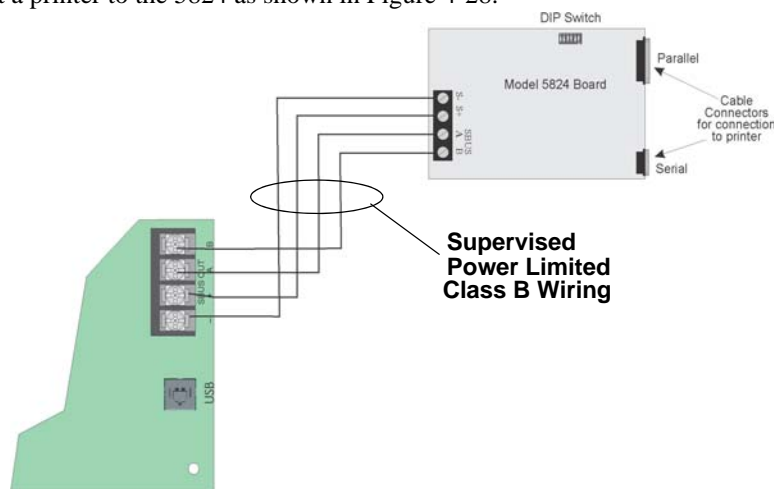

Figure 4-28 5824 Connection to the Panel
2. Connect the 5824 to the panel as shown in Figure 4-28.
5. Connect a printer to the 5824 as shown in Figure 4-28.